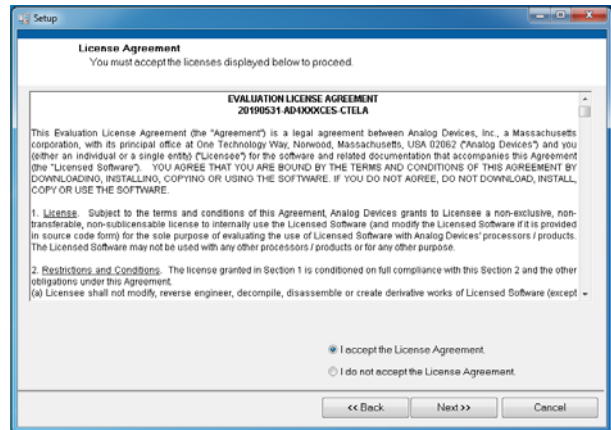

Figure 6. **License Agreement Window**
5. Installing the AD40XX Evaluation Software Installer requires users to accept the license agreement shown in Figure 6. Read the agreement before clicking **Next** to proceed.